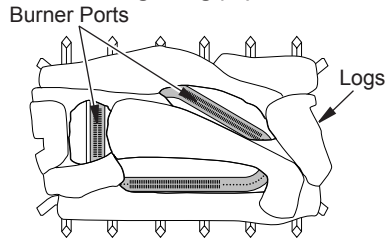

Figure 21 - Installing Log set (Top View)
4. Make sure open areas of logs line up with burner ports (see Figure 21). Logs will fit securely on chassis.